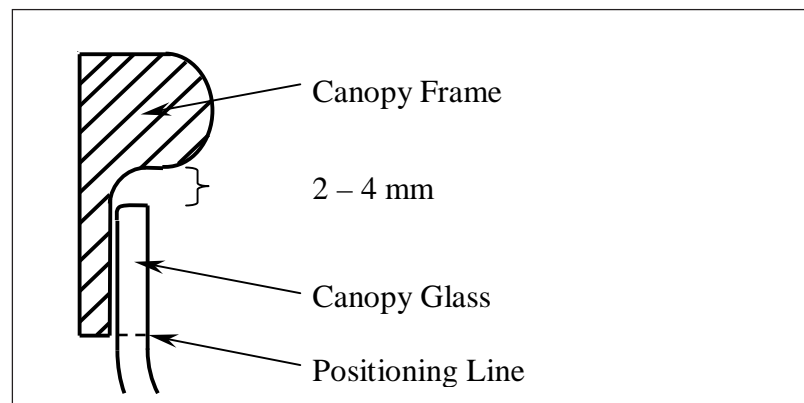
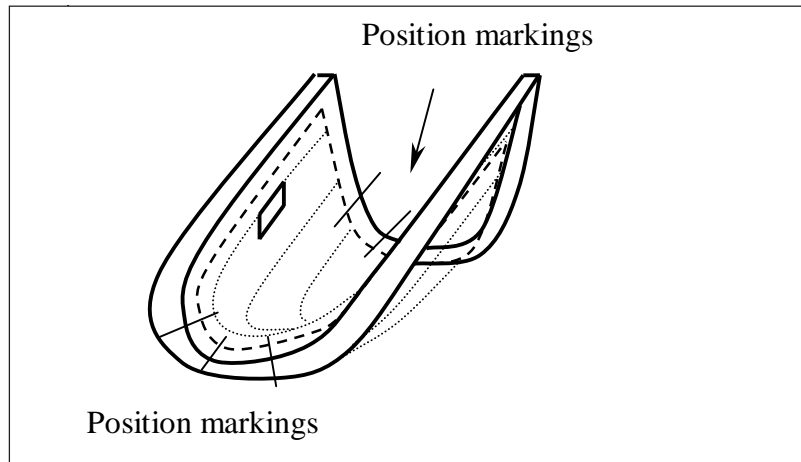

Figure 9 Typical cross section of canopy bonding area
Figure 10 Canopy position markings
- 6 Secure the canopy glass in the frame. Draw a positioning line (see Figure 9) and position markings on the inside (see Figure 10).